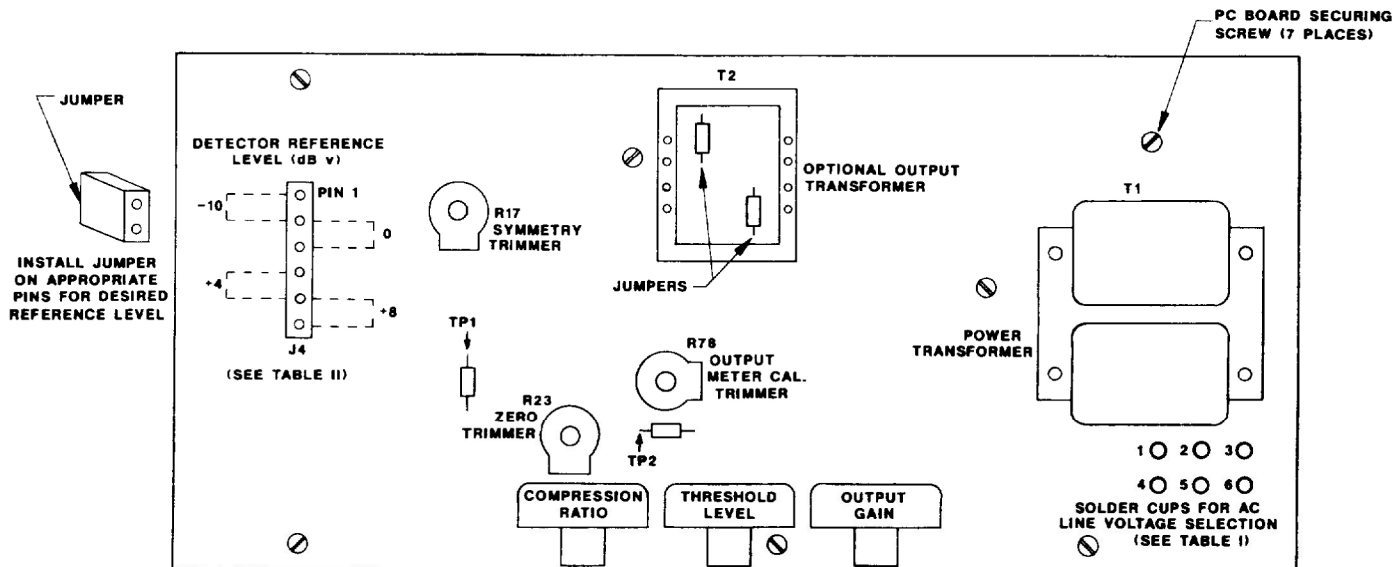

Figure 1. Location of Pertinent Components on Circuit Board
3. Locate the six voltage selection solder cups on the right side of the circuit board in front of the power transformer. See Figure 1 for location. Referring to Table I, unsolder the jumper wires from the solder cups and resolder them in
3. Select the desired nominal level by placing the jumper on two pins of the six-pin male connector (J4) located near the upper left edge of the circuit board as shown in Figure 1. Table II shows the pin
4. Feed a 1 kHz signal at the selected nominal level (the level desired for a "0 dB" meter indication) to the signal input. Then adjust the meter calibration trimmer (R78) located near the center of the circuit board until the meter indicates "0 dB". See Figure 1 for location of calibration trimmer.
3. Remove the seven screws securing the printed circuit board. Locate the mounting holes near the top of the circuit board. See Figure 1 for these locations.
- Digital Voltmeter (DC)
4. Apply an input signal of 100 Hz sine wave at 0 dB (0.775 Vrms) to the input connector. Connect oscilloscope probe to TP1 (see Figure 1 for location) and observe a mildly distorted 200 Hz sine